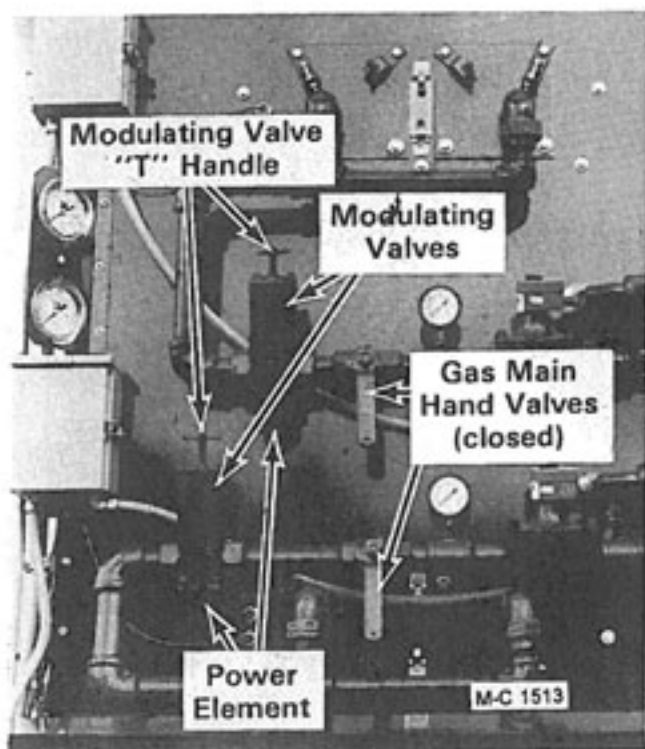

Figure 34
2. Close the gas main hand valve for each burner (handle 90° to the piping), see Figure 34.
3. **LP Gas** - Open the supply valve at the tank, the hand valve at the LP Gas inlet hose and open (lift up) the liquid line flip valve on each burner, see Figure 34 and 36.
- Natural Gas** - Open the supply valve. Close all hand valves, Figure 34.